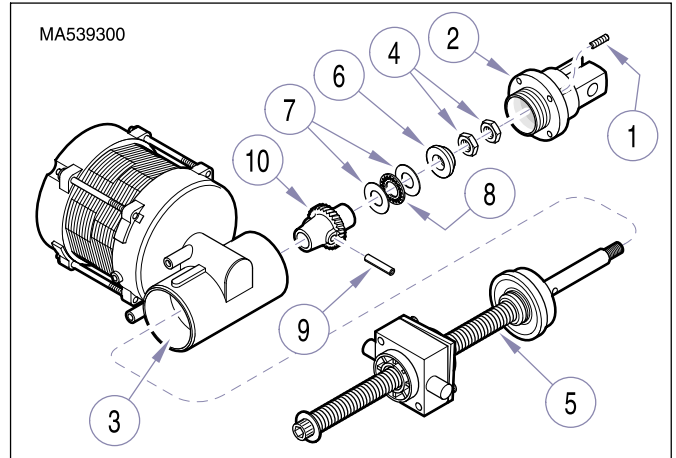

Figure 4-8. Worm Gear Removal / Installation
- (1) Remove base motor (Refer to para 4.3).
- (2) Using a 3mm Allen Wrench, remove two set-screws (1, Figure 4-8) and then unscrew clevis (2) from motor housing (3).